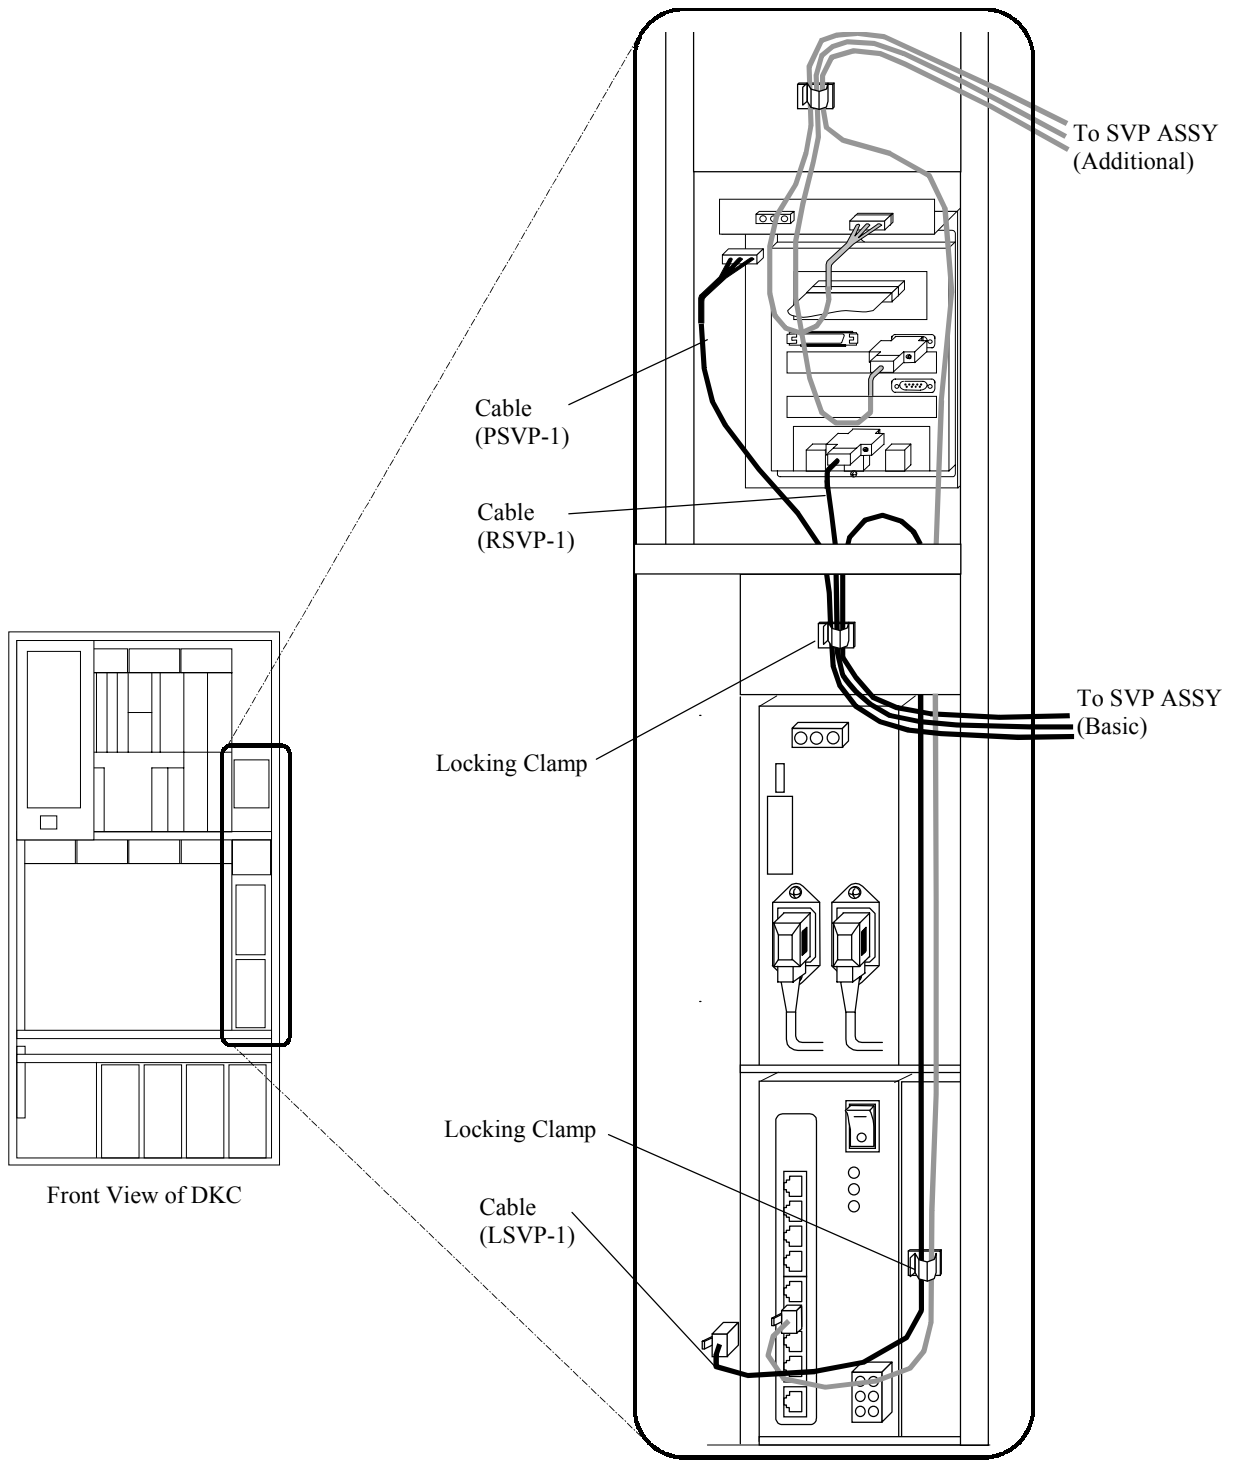

Fig. T7.1-6 Removal of Cables
- c. Open the locking clamps and remove the cables. (See Fig. T7.1-6 [REP03-490].)